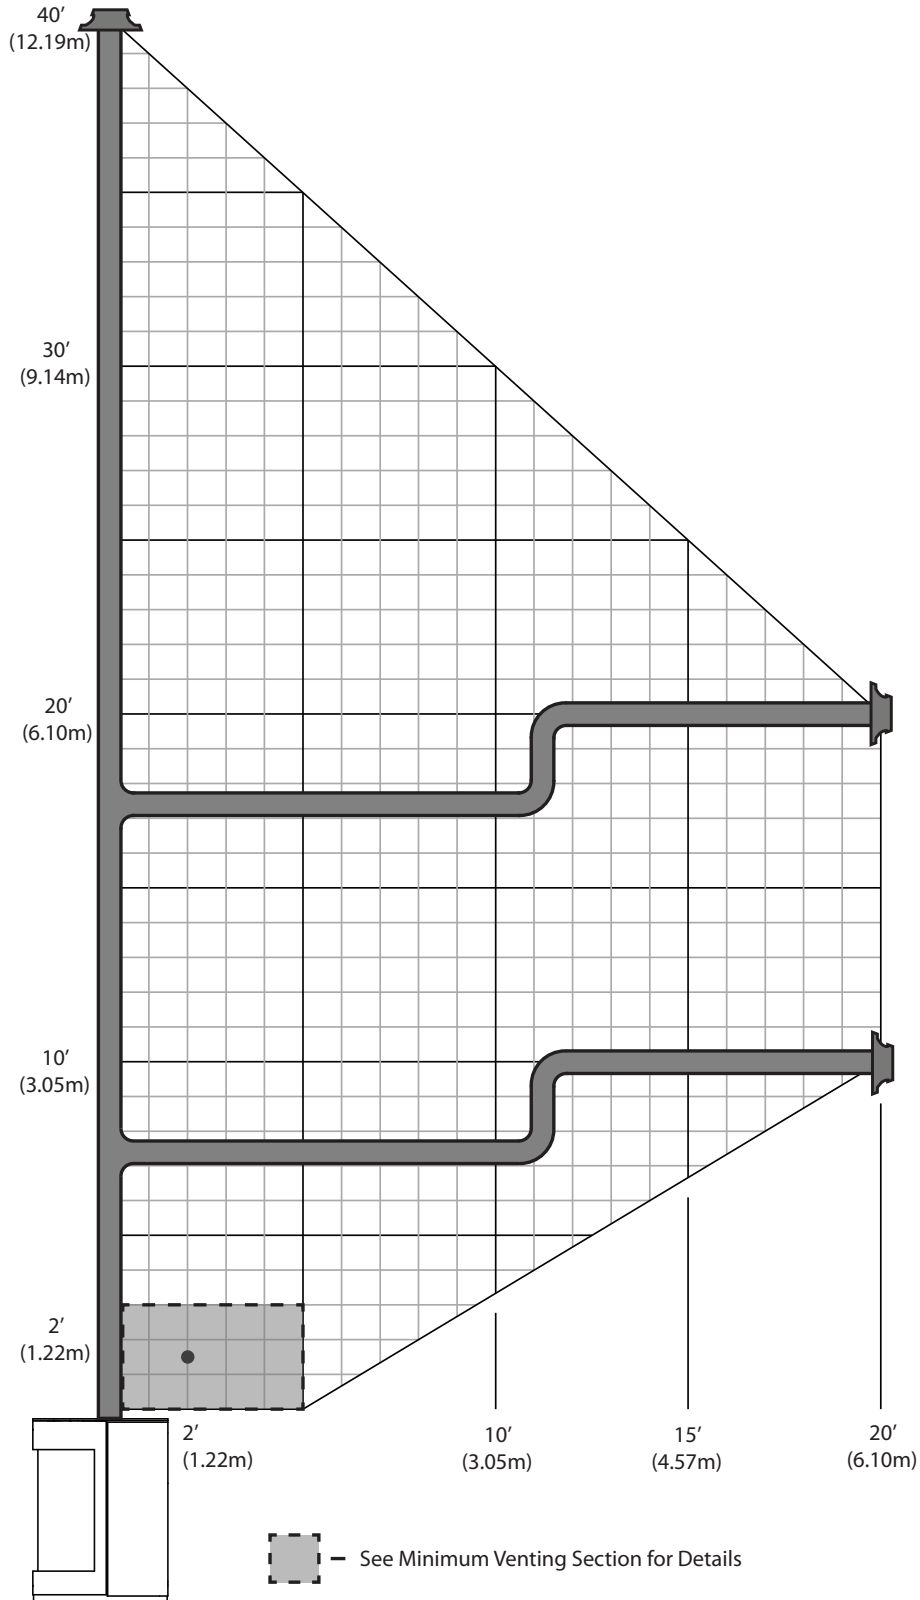

Figure 55: Top Vent Configuration Diagram - LP
The following charts show the range of venting options available for top vent configurations using either vertical or horizontal terminations in conjunction with 0 - 3 90° elbows in the vertical plane. Having the fewest number of elbows is ideal as they restrict air flow. The total length of horizontal vent pipe can not exceed 20ft (6.1m) and the total vertical length can not exceed 40ft (12.2m). Any combination of rise and run can be used as long as it lays within the shaded areas of the following charts. A total of three (3) 90° elbows or six (6) 45° elbows can be used as shown in Figure 54 & Figure 55. In addition to what is shown, if a 90° elbow is used in the horizontal plane, 3 ft (91.4cm) must be subtracted from the allowable horizontal run (for each 45° elbow, 1.5ft (45.7cm) must be subtracted).